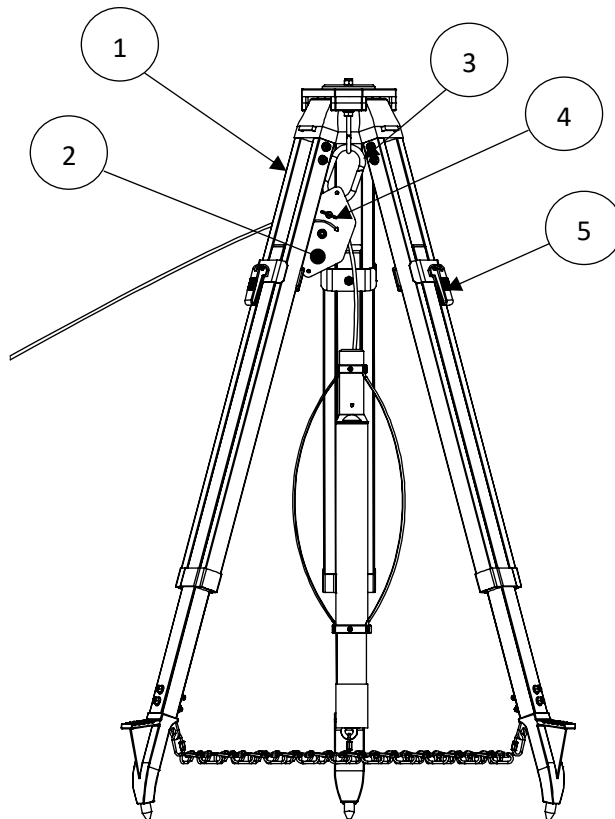
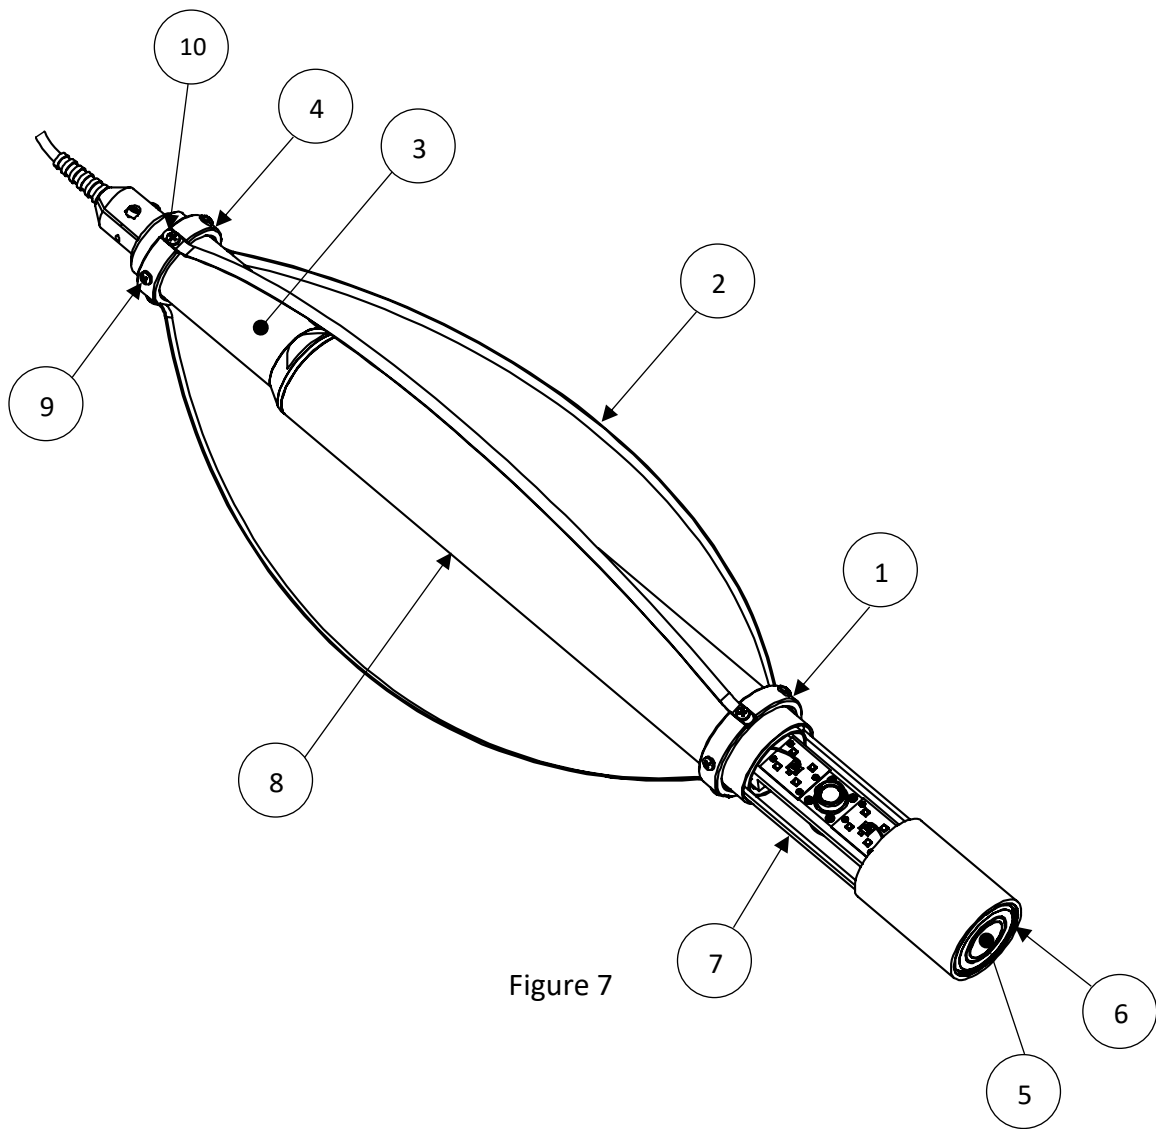

Figure 6
Figure 7
1. Extend the three Tripod legs (Figure 6 Item 1) fully away from the center of the unit until it is in a stable position. The Sheave Assembly (Figure 6 Item 2) is mounted to the center eyebolt with the use of a Mounting Clip (Figure 6 Item 3).
2. Remove the Quick Release Pin (Figure 6 Item 4) by pulling it out of the Sheave Assembly. Thread the camera cable through the Sheave Assembly following the direction of the arrow. Lay the cable over the Sheave Wheel in the center with the cable head in the direction of the arrow.
3. Place the Quick Release Pin (Figure 6 Item 4) back into position to trap the cable, once the Mounting Clip (Figure 6 Item 3) is clipped to the assembly.
4. Adjust the length of legs by lifting the red Lock (Figure 6 Item 5) and sliding each leg to the desired length. Lower the red Lock back to lock the leg in place.
The Camera, shown in Figure 6, electronics and LED lighting are housed in a stainless steel outer housing (Figure 7 Item 8), which when assembled is water tight at external pressures of 500 PSI.
The Down View Port (Figure 7 Item 5) protects the downhole view lens and LED lighting. The Side View Pyrex Glass Port (Figure 7 Item 7) protects the side view lens and LED lighting.